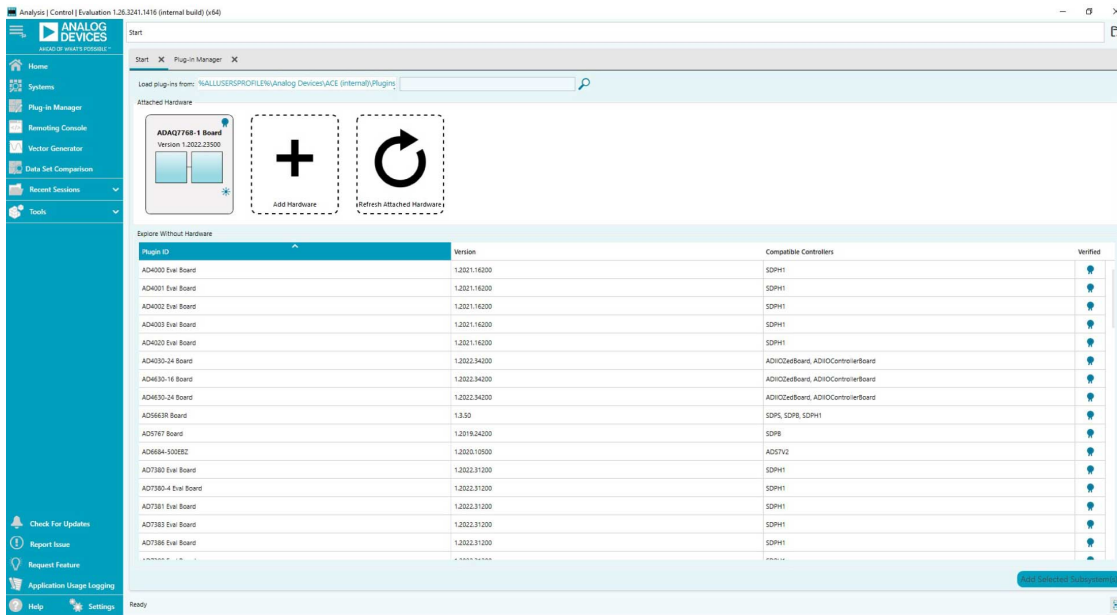

Figure 13. EV-ADAQ7768-1FMC1Z ACE Software Main Window
1. From the **Start** menu, select **All Programs > Analog Devices > ACE > ACE.exe** to open the main window shown in Figure 13.